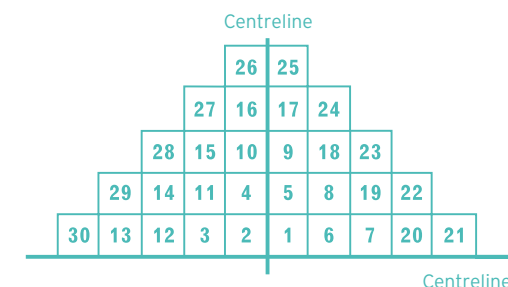

Figure 9 Pyramid layout
- > Lay the first pyramid of tiles from the centrelines, using the sequence shown in Fig 9. Ensure a close bond is maintained at all times.
NOTE Construction of a pyramid should always start at the centre of the baseline, working in the same sequence as shown in Figure 9.